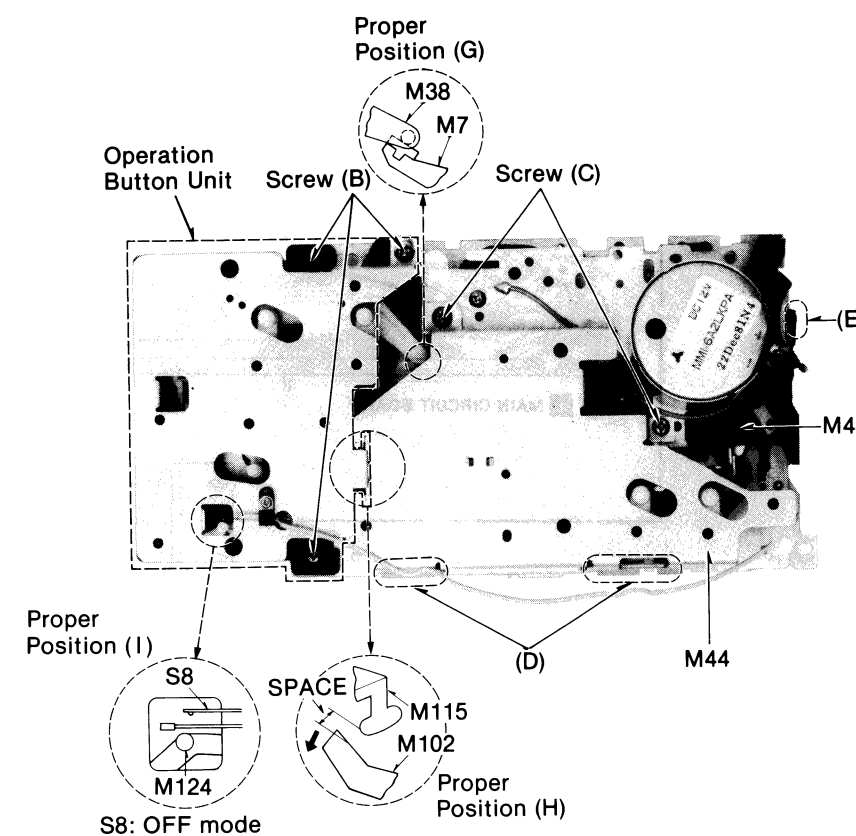
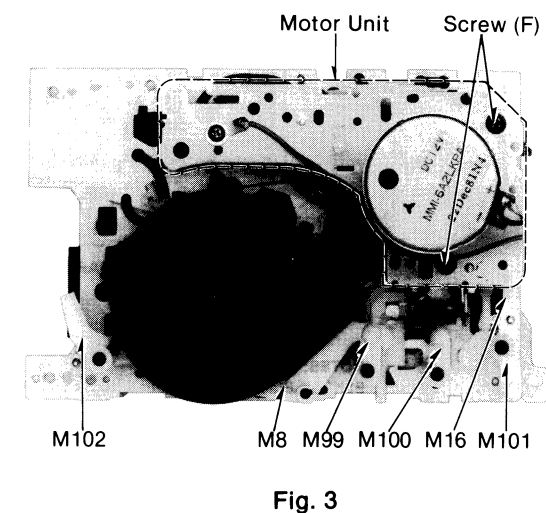

Fig. 2
Fig. 3
2. Remove three screws (B) and remove operation button unit (see Fig. 2).
3. Remove two screws (C) and hook at section (D) to dismount flywheel retainer (M44) (see Fig. 2).
4. Remove hook at section (E) and cord clamer (M48) (see Fig. 2), and then remove two screws (F) (see Fig. 3) to dismount motor unit.
Before installing the operation button unit in the mechanism unit, pull the play changing lever (M102) of the mechanism unit in the direction of the arrow until it is locked, and set the pause, F.F. and rewind buttons of the operation button unit to OFF. At this time, check that all parts are installed at their proper positions at sections (G), (H) and (I) (see Fig. 2).